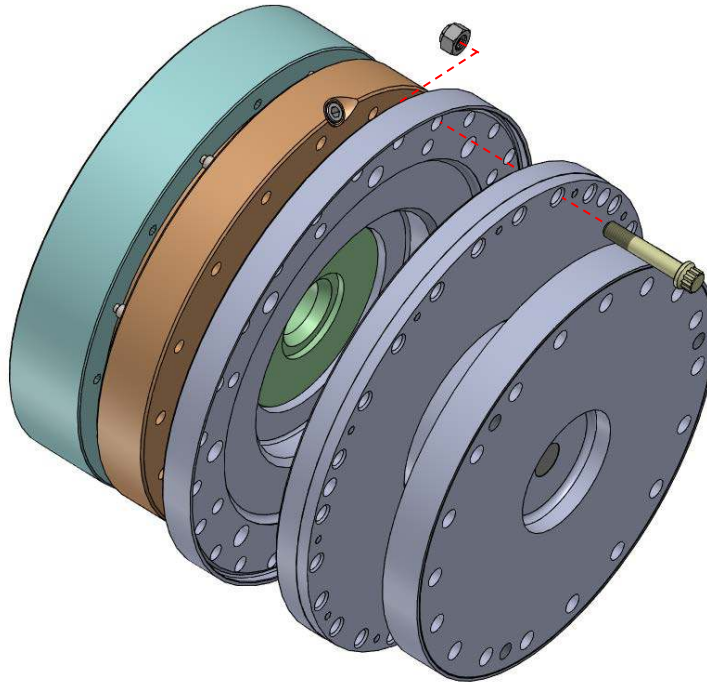

Figure 8 – Flex Assembly Installation on Hub Flange
4.1.1 Install one flex assembly onto the hub as shown in Figure 8 aligning the holes using Qty (4) bolts and nuts spaced 90 degrees apart. Tighten the bolts/nuts a few turns at a time in a criss-cross pattern to seat the pilot evenly. Install the remaining bolts and nuts and torque evenly in a criss-cross pattern to the torque shown on drawing HC-8088.